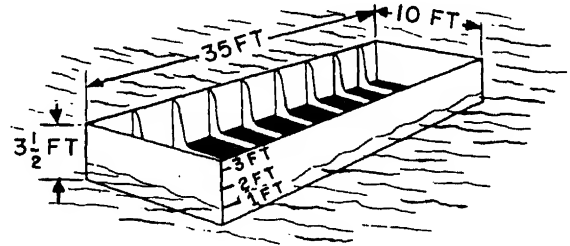

Figure 2A.
- 2-5. When the rectangular barge of figure 2A floats empty in sea water, its waterline is at the 1-foot mark. How much does the empty barge weigh?
- 2-6. What is the approximate reserve buoyancy of the barge in figure 2A when it is carrying cargo and displacing 30 tons?
2-9. Assume that after loading, the barge in figure 2A weighs 20 tons. What is its freeboard?